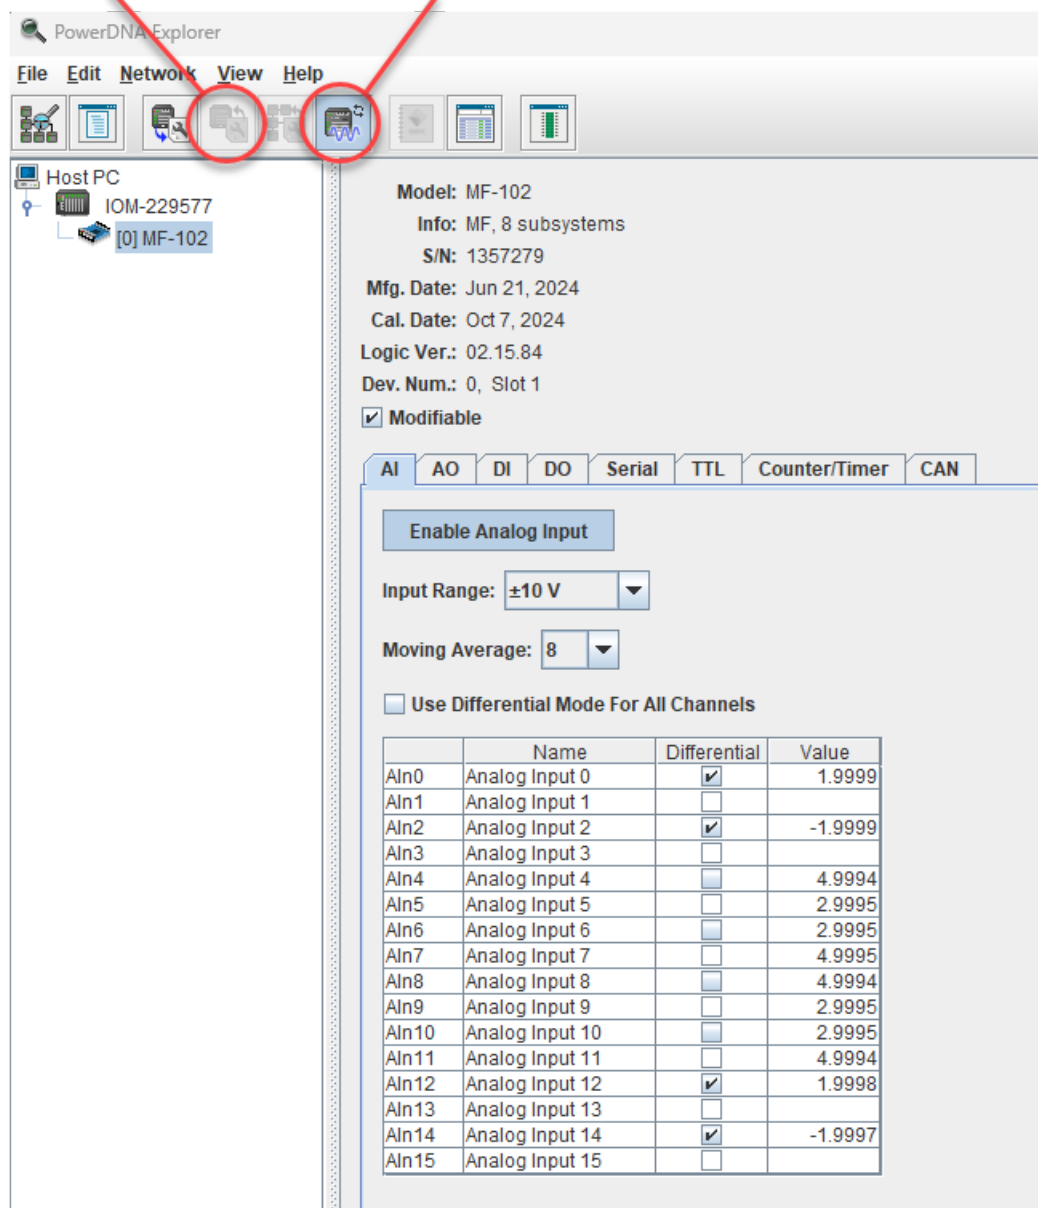

Figure 3-2 PowerDNA Explorer AI Tab
3.2 Analog Input To explore the analog input subsystem, select the AI tab (**Figure 3-2**) and click the **Enable Analog Input** button.
- **Differential:** sets a channel pair to differential mode. As shown in **Figure 3-2**, only the checkboxes corresponding to the even numbered analog input channels can be selected. When the Differential checkbox for an even numbered channel is selected, the Value field for the corresponding odd numbered channel is cleared.